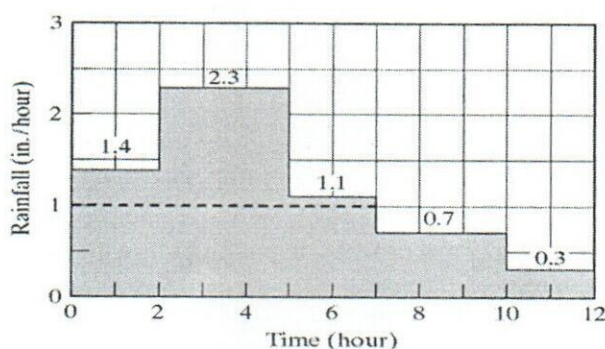

Figure 1
- e) State three (3) hydrological processes which could cause above (c) water losses. [03]
- b) Write six (6) factors affecting the rate of transpiration. [03]
- vii) Direct runoff due to a 12-hour storm event (shown in figure 1) is 4.7 inches. Calculate the average infiltration rate for the same 12-hour period. [03]